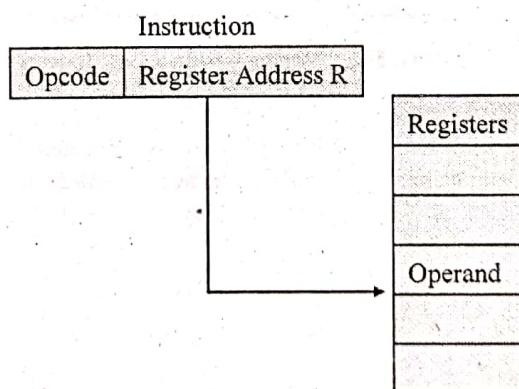

Fig. 2- Q. 5(a) : Register addressing
- In this mode of addressing, operand is in the register, and instruction specifies the particular register as shown in Fig. 2- Q.5(a).